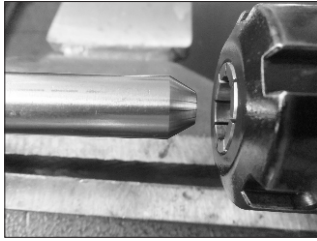

Fig. 1-15
① Cutting oil is required for the operation of manual coning tools, manual threading tools and manual reseating tools. Quality cutting oil serves to reduce the heat and friction between the cutter and the metal, optimize the surface finish, and extend the life of the cutter.
15. Rotate the feed nut counterclockwise to remove the blades away from the tubing. Loosen the collet nut with a wrench. Remove the tubing. (Fig.1-15)